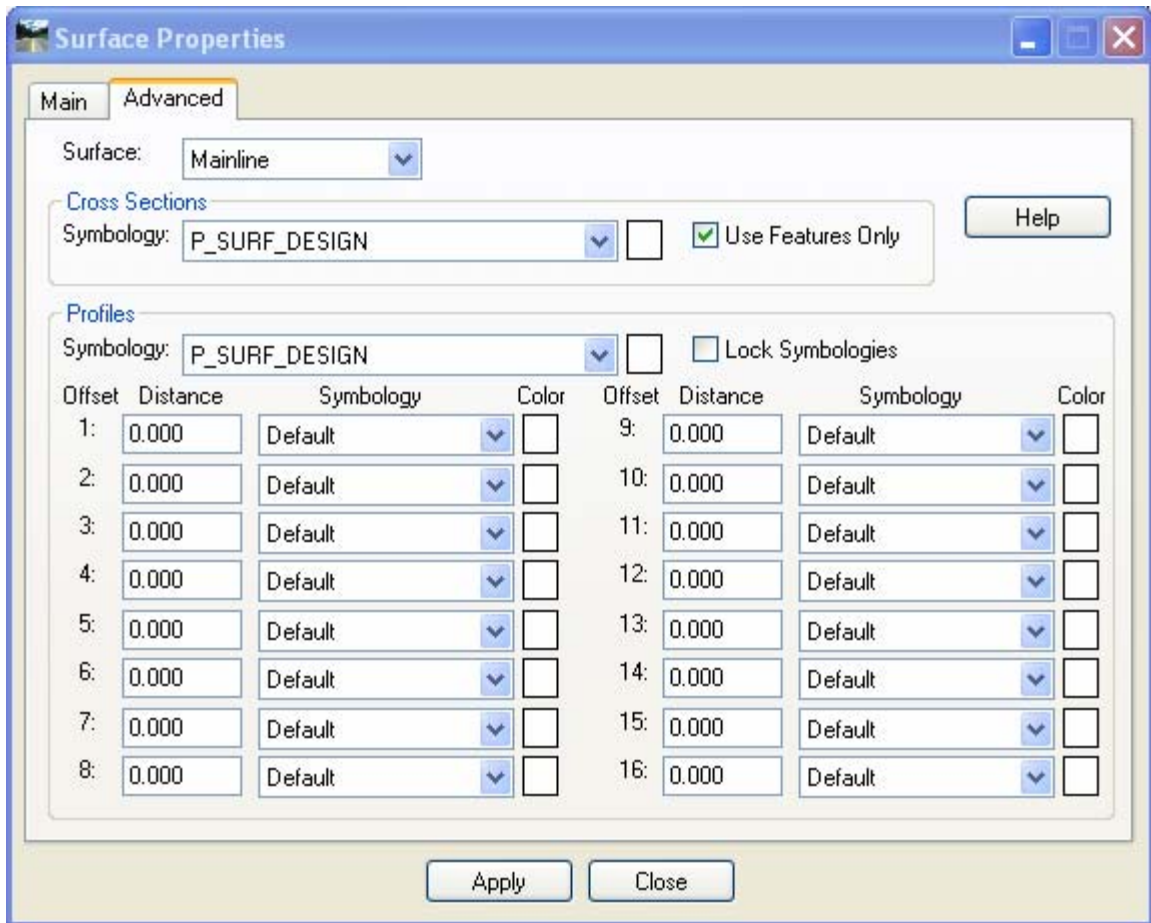

Figure 7-6 InRoads Surface Properties Dialog Box
- B. **Right click** over the proposed surface and select Properties. (see Figure 7-6).